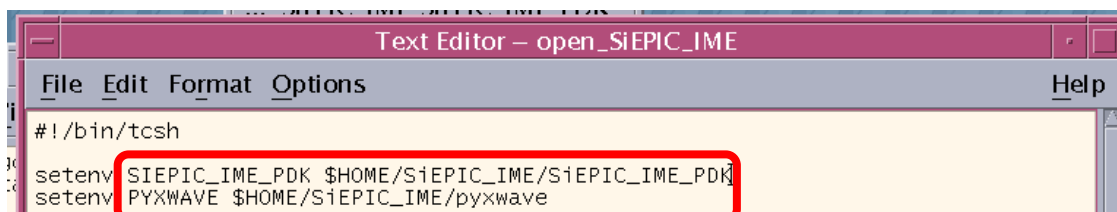

Figure 2: Script File in Text Editor
The script file opens in the text editor (see Figure 2).
- b. In the script file, edit the two paths (see highlighted items shown in Figure 2) to reflect the new chosen path.